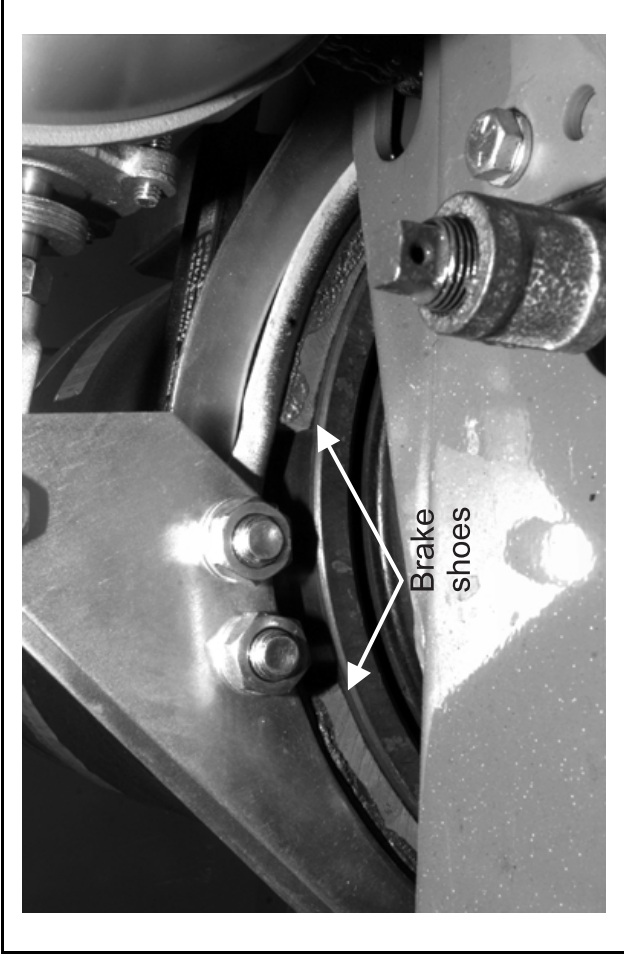

FIGURE 23 (MSSM0201CE)
• Brake shoes FIGURE 23	Check for wear, adjust or replace as required.